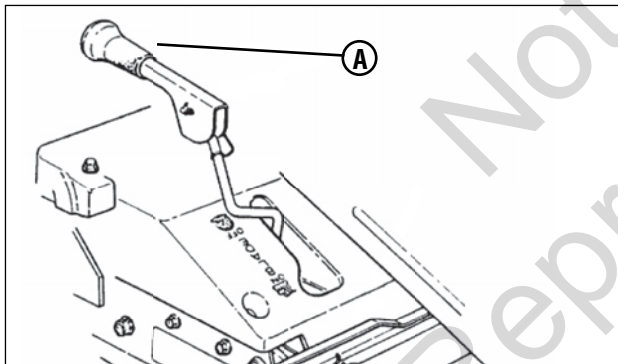

Figure 4: Blade lever (in ‘Off’ position)
2. Make certain the Blade Lever (**A, Figure 4**) is in the “OFF” position.
2. Make certain the Blade Lever (A, Figure 4) is in the “OFF” position.